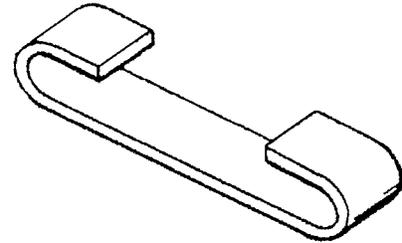

Figure 5-10. Flexible Item Bracket
- j. A flexible item bracket (Figure 5-10) is used to mount flexible magnetic retrieving tools. This item is molded to shape and sized to fit the tool.